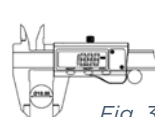

Fig. 3
- B. Measurement of external dimensions (Fig. 3).